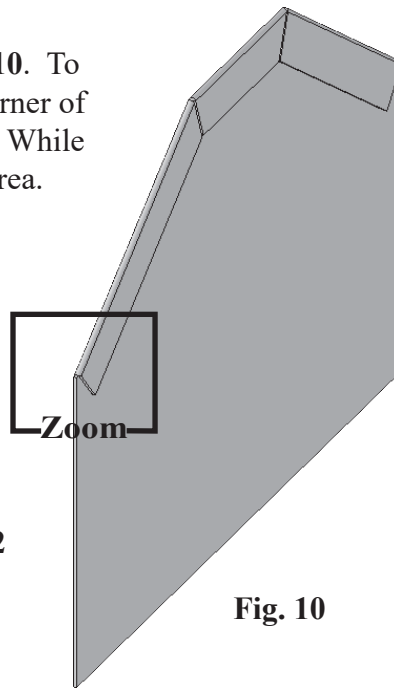

Fig. 10
Step 1. Zoom in on **front corner of hem**, Fig. 10. To zoom, place the cursor over the front corner of hem and spin the wheel on mouse back. While spinning the wheel keep cursor on the area.